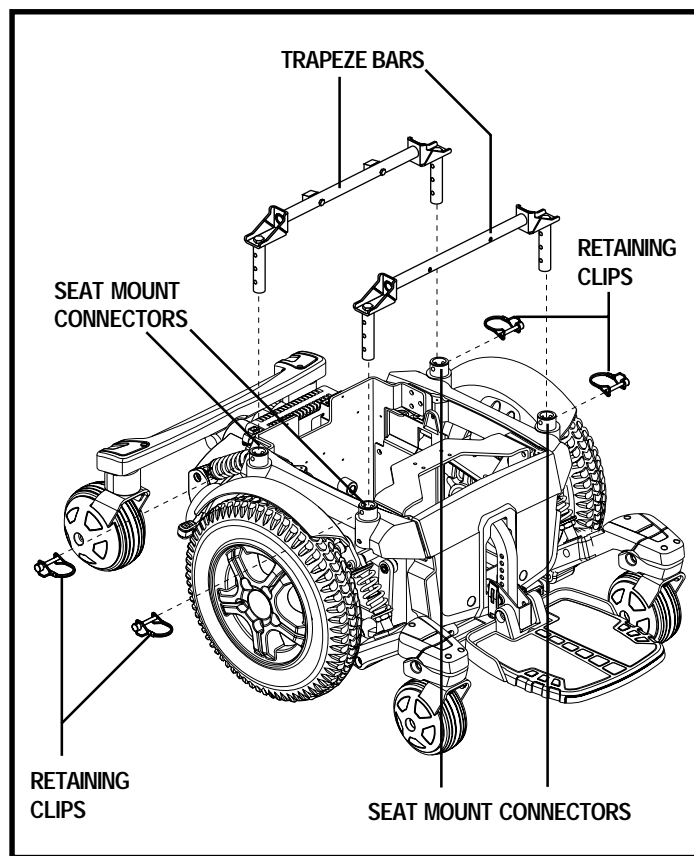

Figure 14. Seat Height/Angle Adjustment
8. Remove the retaining clips that attach the trapeze bars to the seat mount connectors. See figure 14.